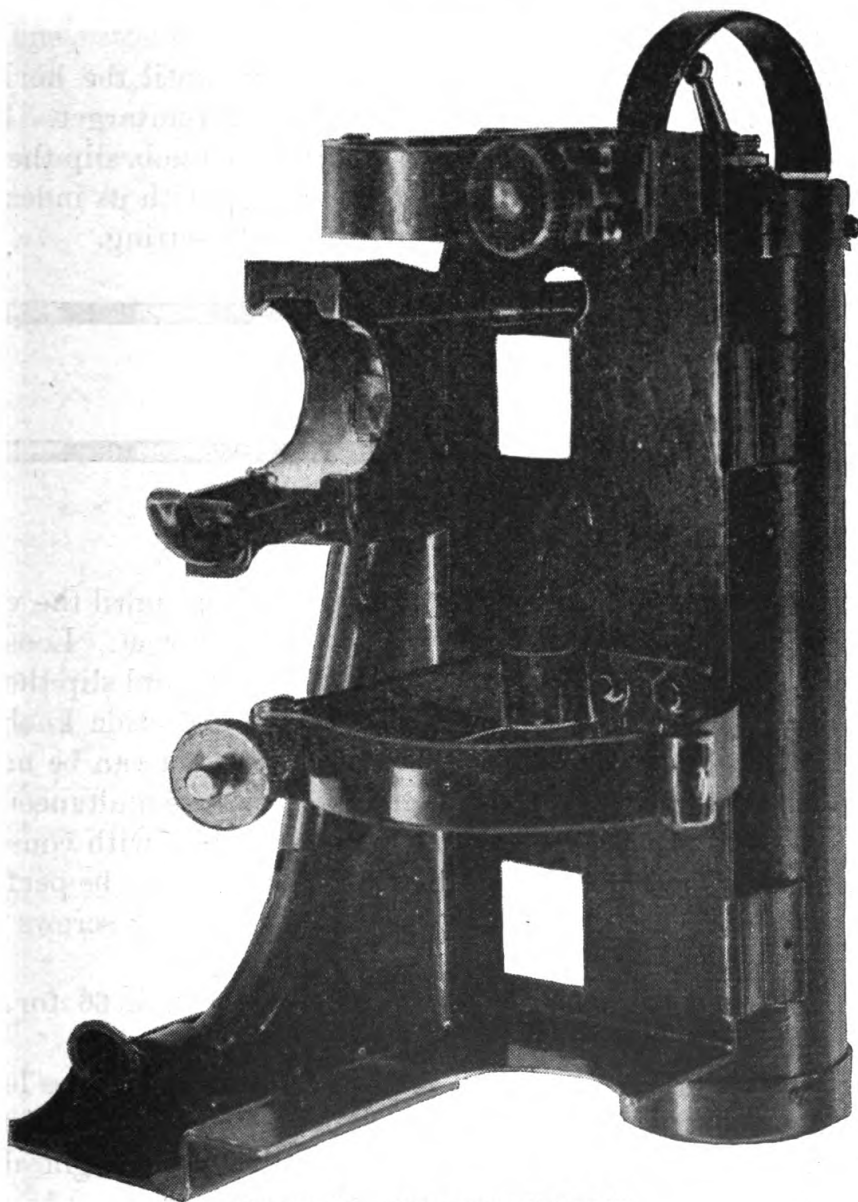

FIGURE 48.—Instrument light M5.
*d. Care and preservation.*—(1) Refer to paragraph 66 for information on the care and preservation of instruments.
(2) Stops are provided to limit the longitudinal and cross leveling motions and no attempt should be made to force the mechanisms beyond these limits. Avoid rough handling which might disturb the adjustment of the telescope and mount.
(3) Fittings are provided for lubrication of the principal bearings and *oil only* is to be applied. Wipe off all lubricant that seeps from the moving parts to prevent accumulation of dust and grit.
**59. Light, instrument, M5.**—*a. General.*—The instrument light M5 (fig. 48) is used with the panoramic telescope M5A5 and telescope mount M18A1 to illuminate the reticle, azimuth scale, azimuth